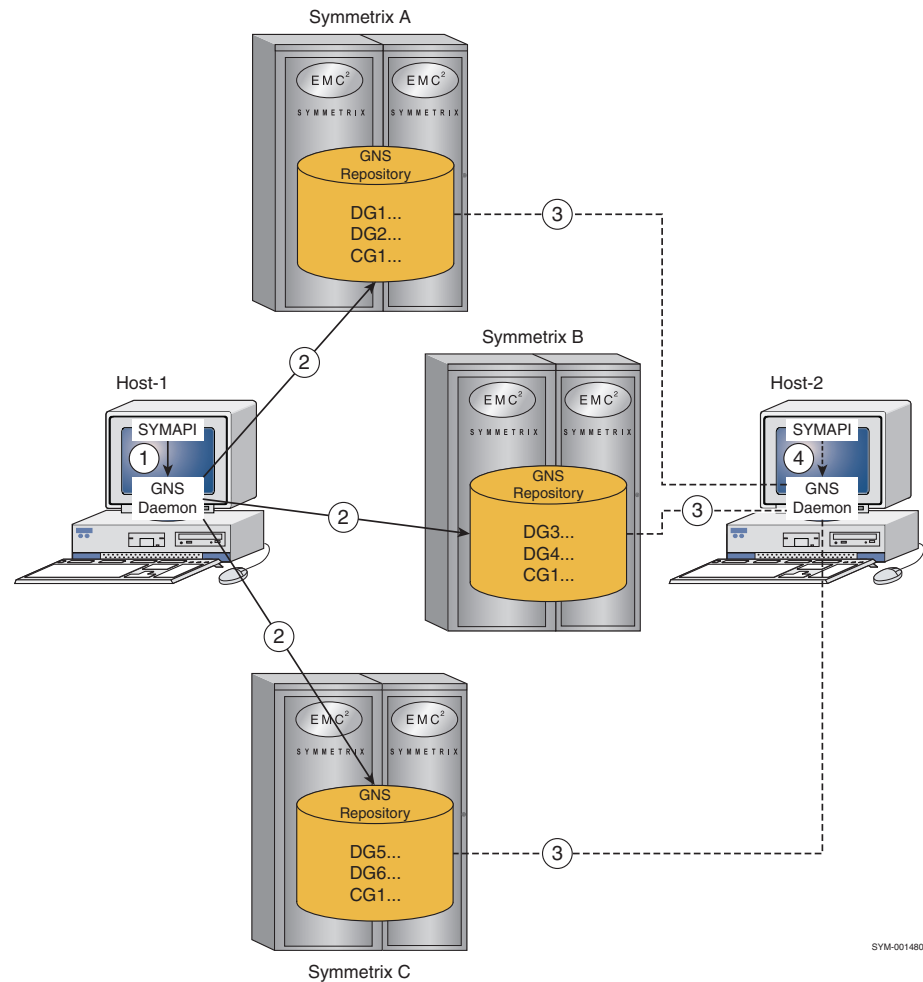

Figure 9 GNS across multiple hosts
For example, in Figure 9, Host-1 makes a change to composite group CG1. (1) The Host-1 GNS daemon gets this request to process and (2) updates the GNS-shared repository on all relevant Symmetrix arrays, in this case Symmetrix A, B, and C. The GNS daemon running on Host-2 detects the change (3) while polling its locally-attached GNS repositories (attached Symmetrix A, B, and C) and updates Host-2 with the updates made by Host-1. Host-2's client application will detect the change (4) on its next group call.